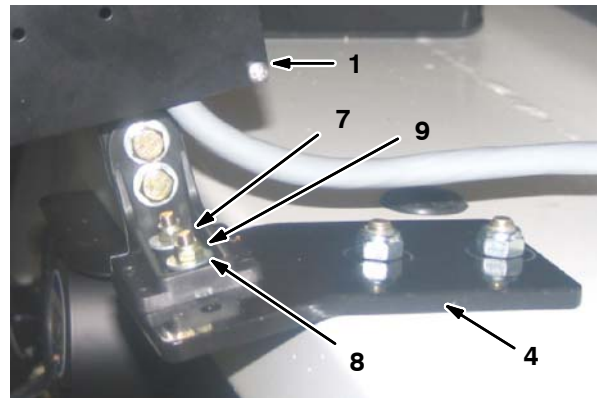

FIG. 14
25. Use four hex screws (7), four flat washers (8) and four hex nuts (9) to mount the arrow stick light (1) to the mounting plates (4). Refer to Fig. 14.